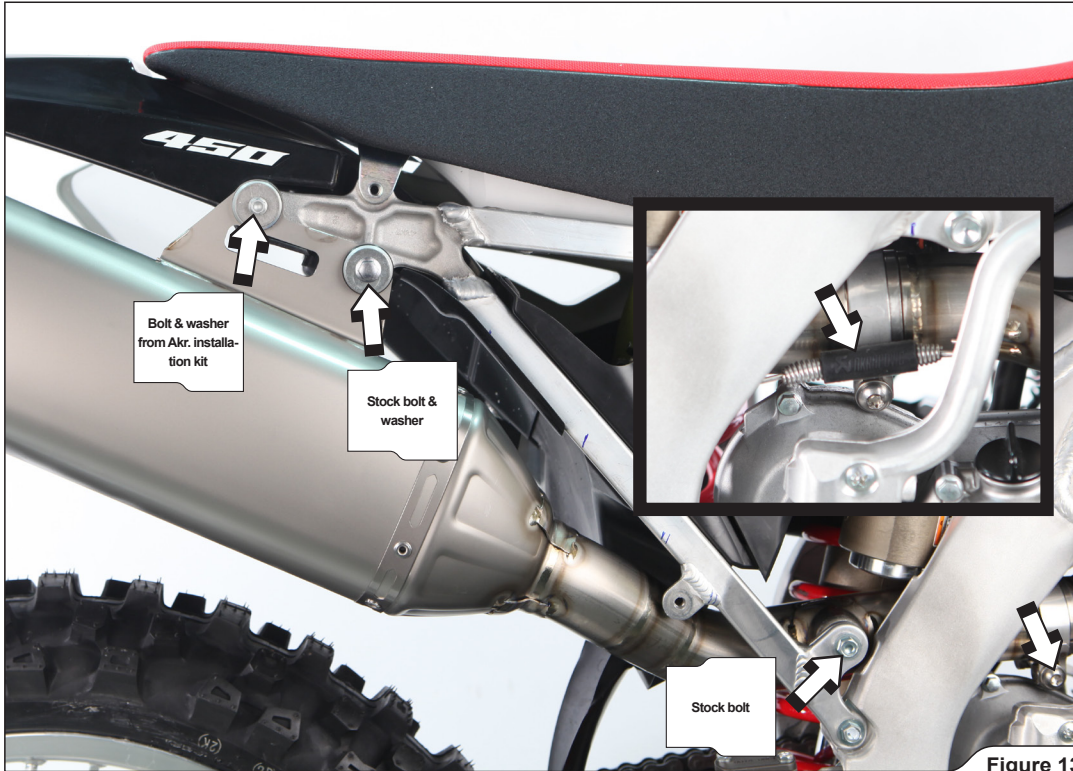

Figure 13
- Carefully slide the muffler onto the outlet side of the header pipe. Hand tighten the clamp, muffler's bracket (using stock bolt and washer from Akrapovič installation kit), link pipe's bracket bolt (using stock bolt) and attach the longer spring from Akrapovič installation kit, as shown (Figure 13).